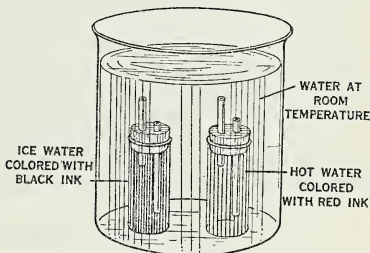

Fig. 190.
*Another method of showing the convection in liquids.* See Figure 190. Fill one of the small bottles with ice water colored with black ink. Fill the other with hot water colored with red ink. Tie a string around each and lower into the battery jar filled with clear water. Note movement of colored water. Explain.